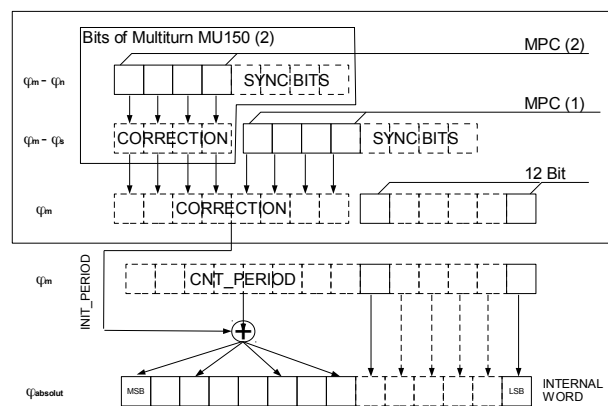

Figure 44: Principle of the synchronization of a 3-track nonius system using 2 iC-MU150 without further multiturn data
Figure 44 shows the principle of the synchronization of the data from iC-MU150 (2) to iC-MU150 (1).